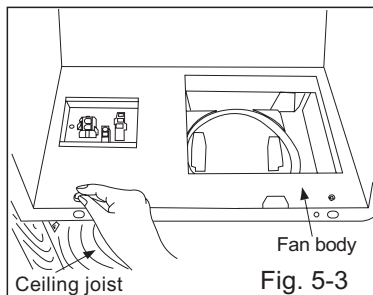

Fig. 5-3
5. Secure the adaptor and fan body using one thumb screw as shown in Fig.5-3.
(9) Secure the fan body to the adaptor by using one thumb screw as shown in Fig.5-3 of page 6.